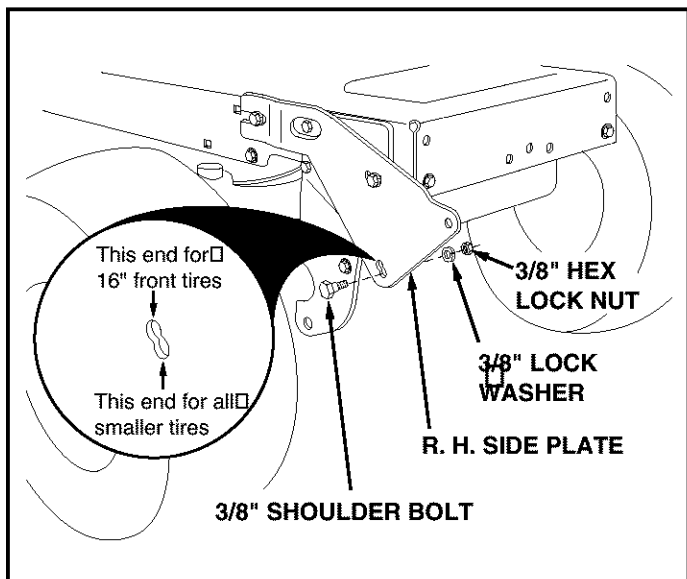

FIGURE 3
- Assemble a shoulder bolt, a 3/8" lock washer and a 3/8" hex lock nut to the bottom hole in each side plate. See figure 3.